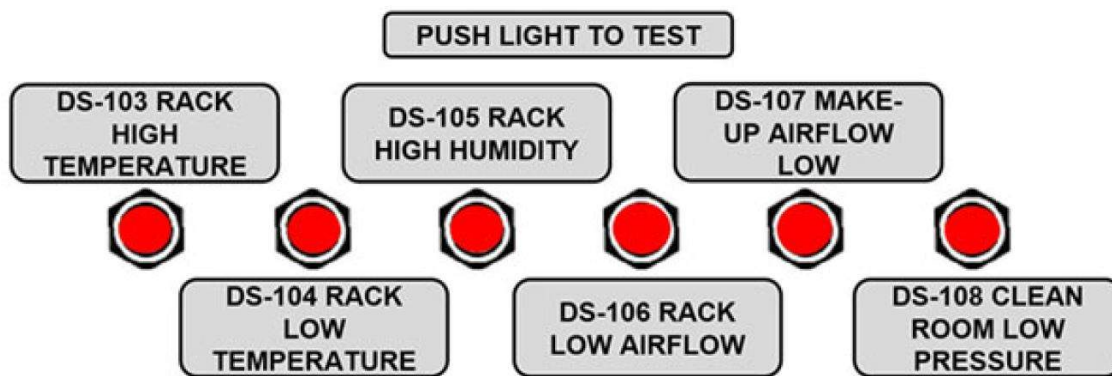

Figure 4-18. Alarm indicator lights on ECP-102.
Ground maintenance response GMR fault alarms are not required at a MAF because it is already manned. When ECS parameters are out of tolerance, the PLC will notify the MCC by closing a binary output (BO) module which will in turn illuminate indicator lights on the front of emergency control panel ECP-102 (fig 4-18). These alarms will all reset automatically, but personnel input might be required in some instances to return system operation back to a normal configuration. This usually involves restarting the ECS by pressing ECS RESTART switch SW-106 on the front of ECP-102.